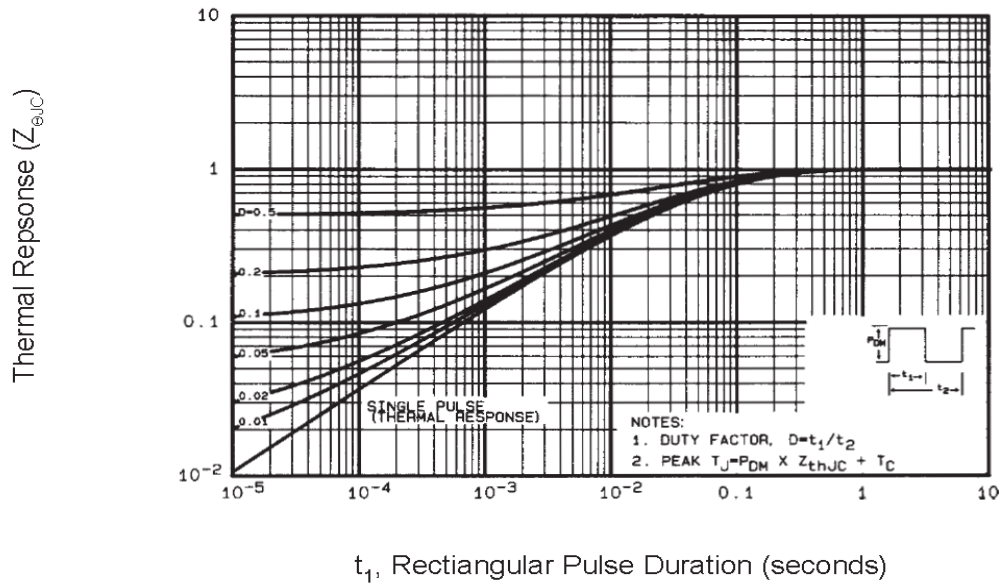

Fig. 11 Maximum Effective Transient Thermal Impedance, Junction-to-Case
① Repetitive rating; pulse width limited by max. junction temperature. (See fig. 11)
③ $I_{SD} \leq 52A, di/dt \leq 250A/\mu s, V_{DD} \leq V_{(BR)DSS}, T_J \leq 175^\circ\text{C}$